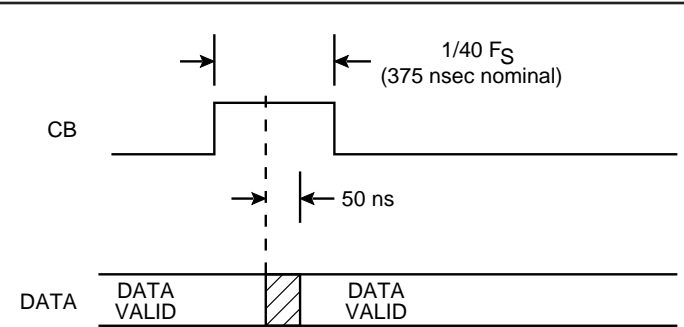

FIGURE 15. CONVERTER BUSY TIMING
The Converter Busy (CB) signal indicates that the tracking converter output angle is changing 1 LSB. As shown in FIGURE 15, output data is valid 50 ns maximum after the middle of the CB pulse. CB pulse width is 1/40 Fs, which is nominally 375 ns.